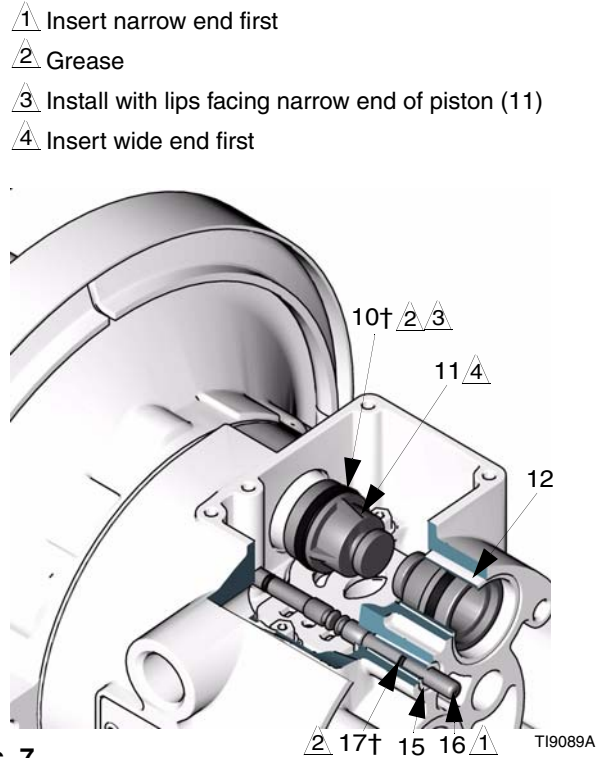

FIG. 7
4. Pull the two actuator pistons (11) out of the bearings (12). Remove the u-cup packings (10) from the pistons. Pull the pilot pins (16) out of the bearings (15). Remove the o-rings (17) from the pilot pins. See FIG. 7.
6. Inspect the bearings (12, 15) in place. See FIG. 7. The bearings are tapered and, if damaged, must be removed from the outside. This requires disassembly of the fluid section. See page 22.
3. Install an o-ring (17†) on each pilot pin (16). Grease the pins and o-rings. Insert the pins into the bearings (15), **narrow** end first. See FIG. 7.
4. Install a u-cup packing (10†) on each actuator piston (11), so the lips of the packings face the **narrow** end of the pistons. See FIG. 7.
5. Lubricate the u-cup packings (10†) and actuator pistons (11). Insert the actuator pistons in the bearings (12), **wide** end first. Leave the narrow end of the pistons exposed. See FIG. 7.